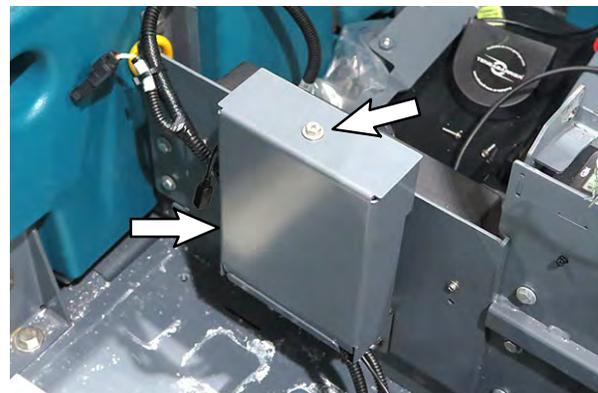

FIG. 21
2. Remove the board mounting bracket from the board mounting plate. Set the board mounting bracket and mounting hardware aside. (Fig. 21)
5. Route the new UI to BMS electrical harness (1) as the removed harness had been routed and connect the UI to BMS electrical harness to the lithium battery communication terminal. Torque the UI to BMS electrical harness ring to 0.6 Nm (0.44 ft. lbs.). (Fig. 21/Fig. 23)